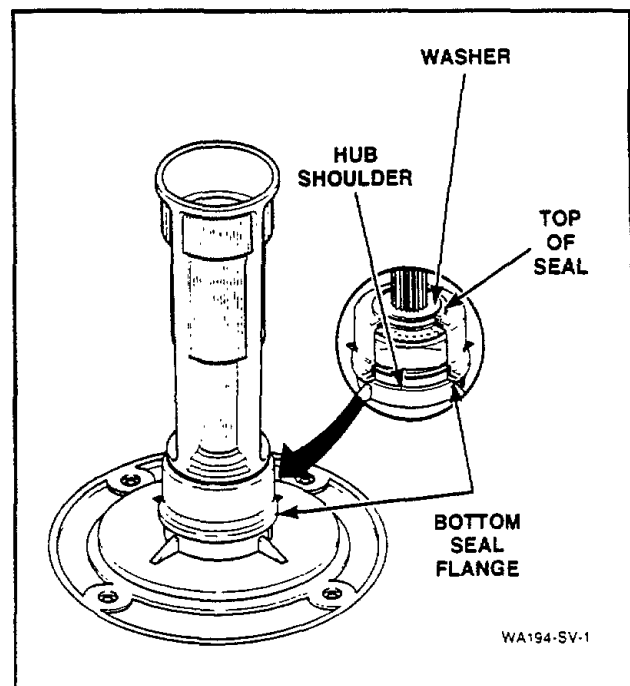

Figure 22
- Turn the seal tool upside-down and place the small end over the output shaft and onto the washer, *Figure 22*.
- Push down on tool with a quick motion until tool bottoms out and the top of seal is fully seated, *Figure 22*.